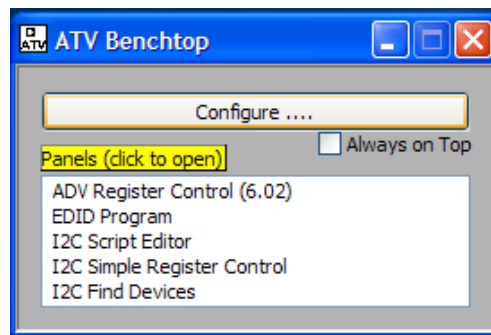

Figure 2 – ATV Benchtop Control
- Launch the ATV Benchtop from the Windows “All Programs” list (Start -> All Programs -> Analog Devices -> ATV Benchtop -> ATV Benchtop). The ATV Benchtop control panel as per Figure 2 will appear.